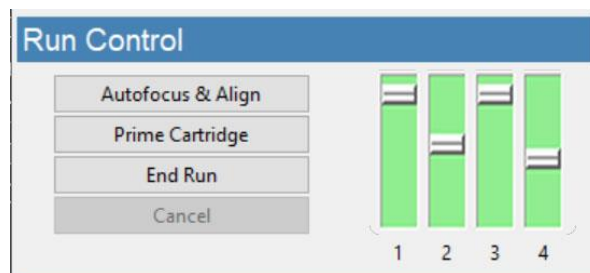

Figure 8. Run Control frame and fill monitors status.
- Press the "Clear Constriction" button (Figure 8) and wait for the routine to complete.